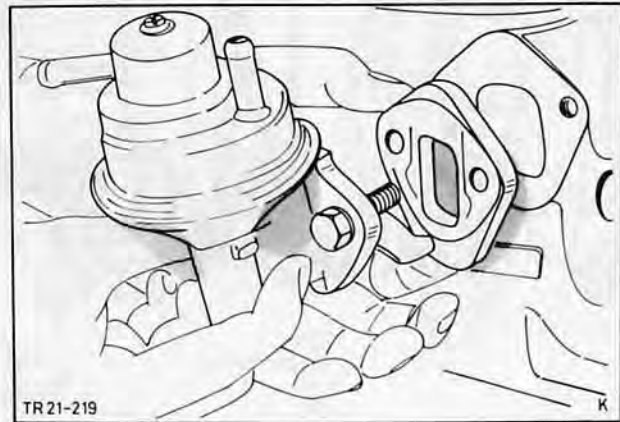

Fig. 70. Fit fuel pump
69. Refit fuel pump with gaskets and spacer. Torque bolts as in Technical Data, Fig. 70.